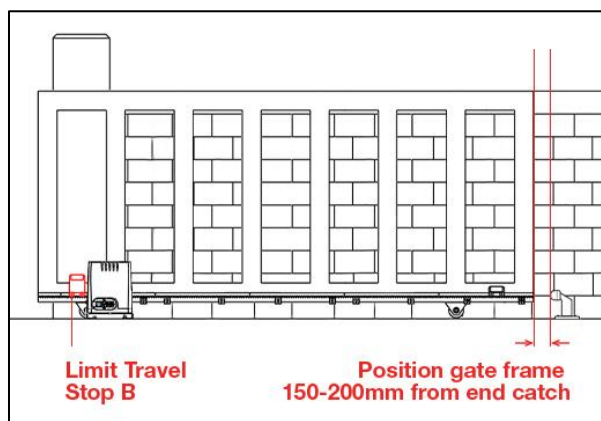

Fig 20
- Position Magnetic Limit Travel Stop B (**LARGER**) central to the magnetic limit switch sensor on the motor (as per fig 20).